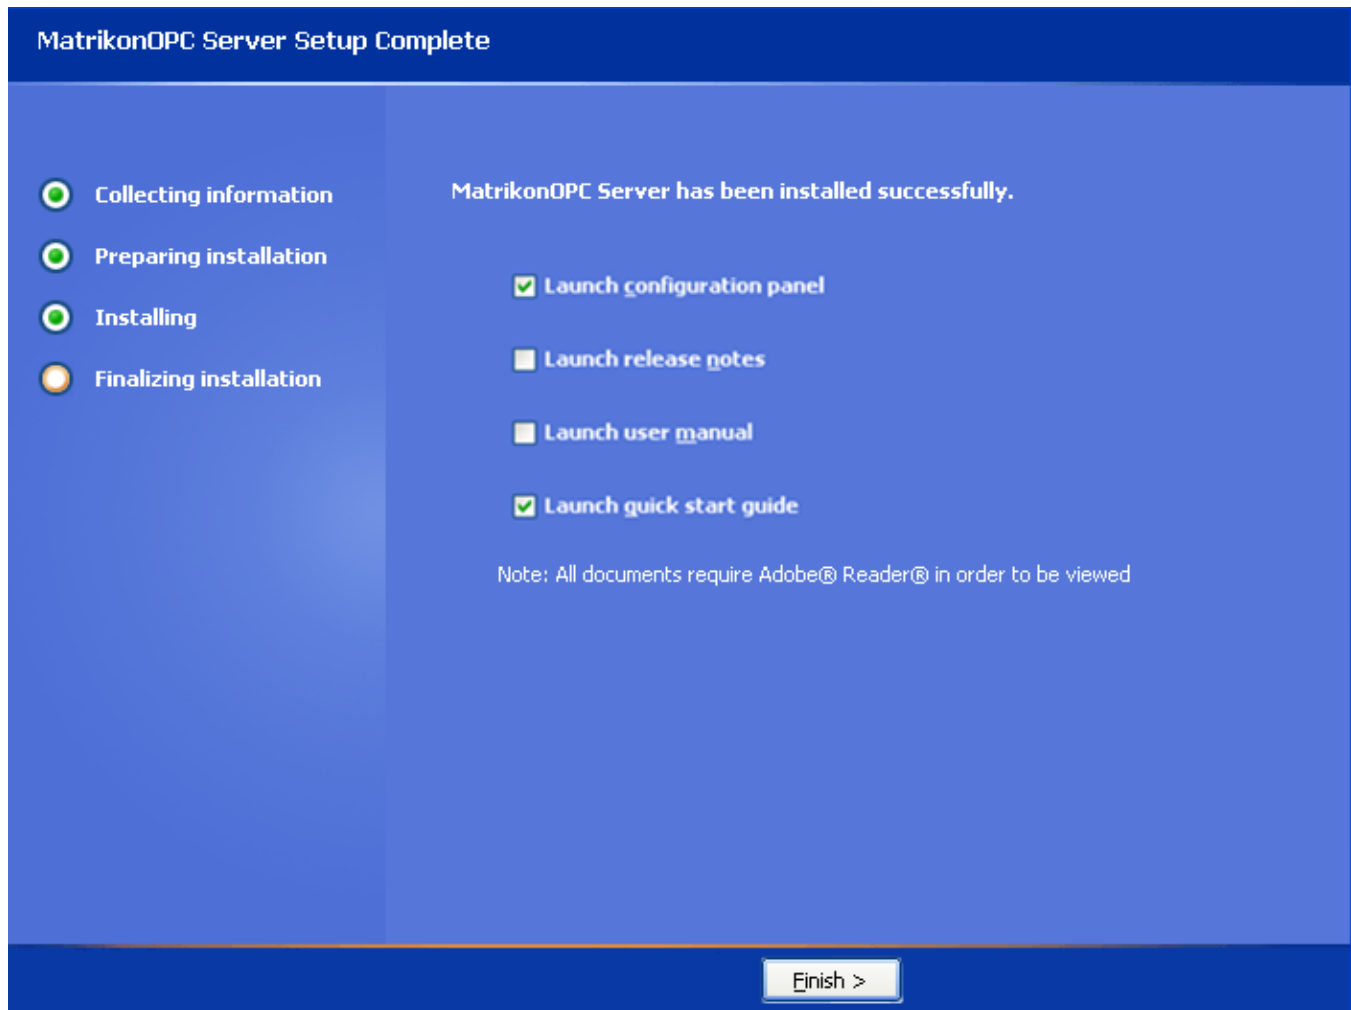

Figure 88 - Matrikon OPC Server Setup Complete Screen
22. When the installation has finished, the **MatrikonOPC Server for GDA Setup Complete** screen (Figure 88) appears stating that the Matrikon OPC server has been successfully installed.